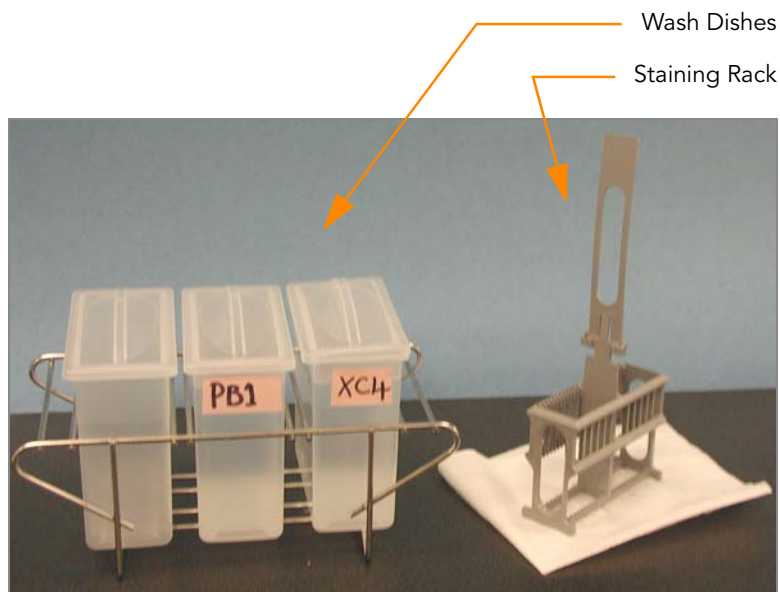

Figure 163 PB1 & XC4 Wash Dishes with Staining Rack
2. Set up two top-loading wash dishes, labeled as shown in Figure 163.